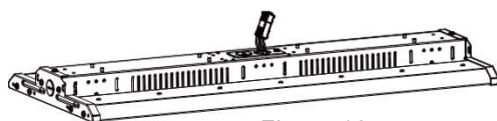

Figure 10
Step 1. Remove knockout hole on the back of the fixture, and pull input wires through knockout (Figure. 10).